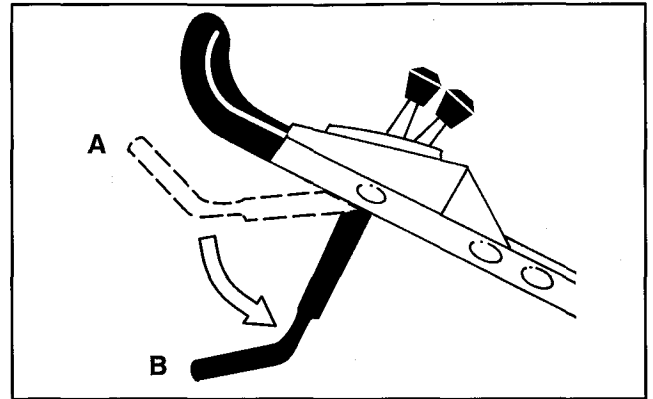

Figure 15
7. Push control bar down to lowest position (Fig. 15, position B).
3. Push the control bar (Fig. 15) down to the lowest position.